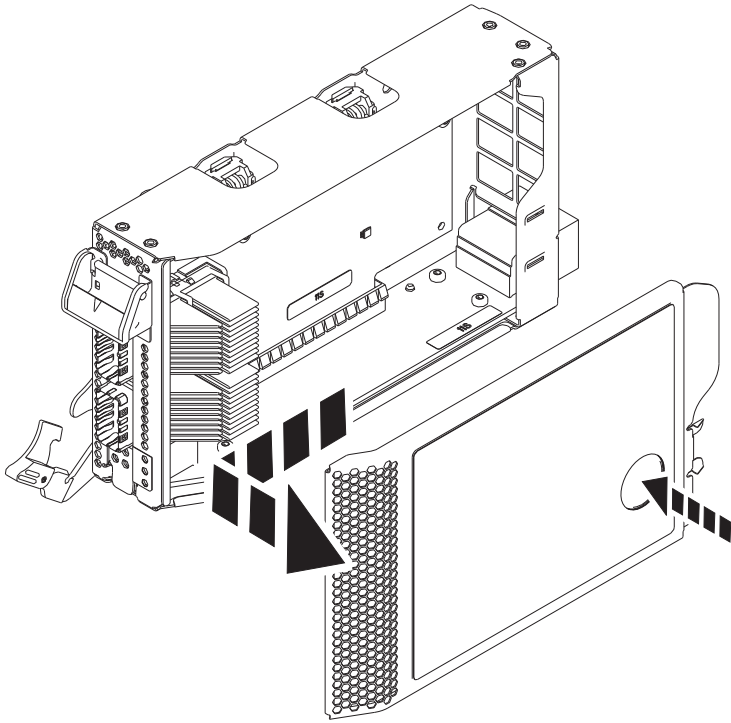

Figure 3. Removing the PCIe adapter cassette cover
- a. Press the terracotta button on the cassette cover as shown in Figure 3 on page 4 to disengage the cover from the cassette.